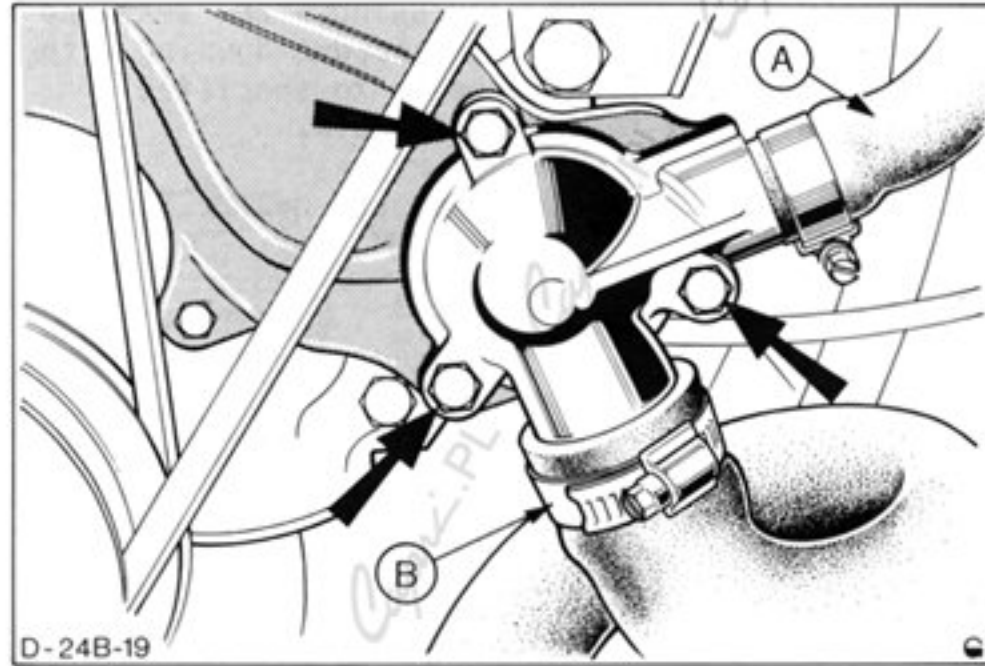

Fig.23. Thermostat housing hose connections (housing retaining bolts arrowed).
3. Position clean drain tray below vehicle, disconnect bottom hose and heater return hose from water pump, Fig.23, and allow system to drain.
6. With drain tray still in position remove three thermostat housing retaining bolts, Fig.23, remove housing and thermostat.